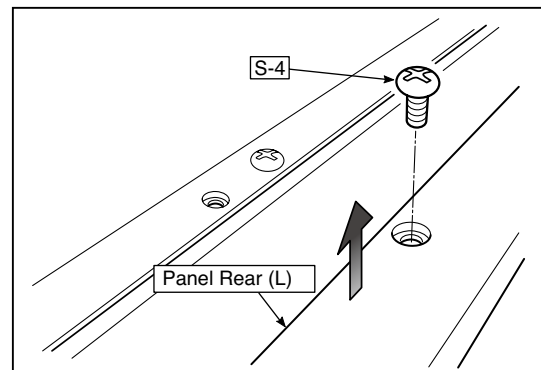

Fig.25
2. Remove the "S-4" screws shown in the figure 25 and then remove the Panel Rear (L).